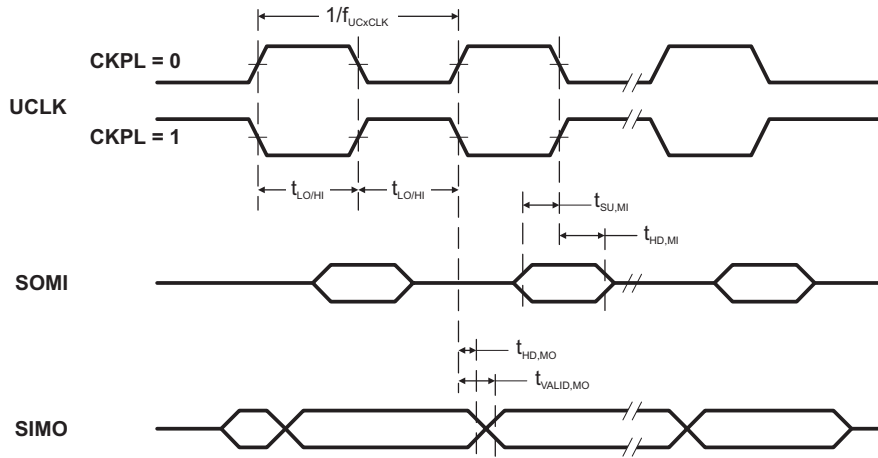
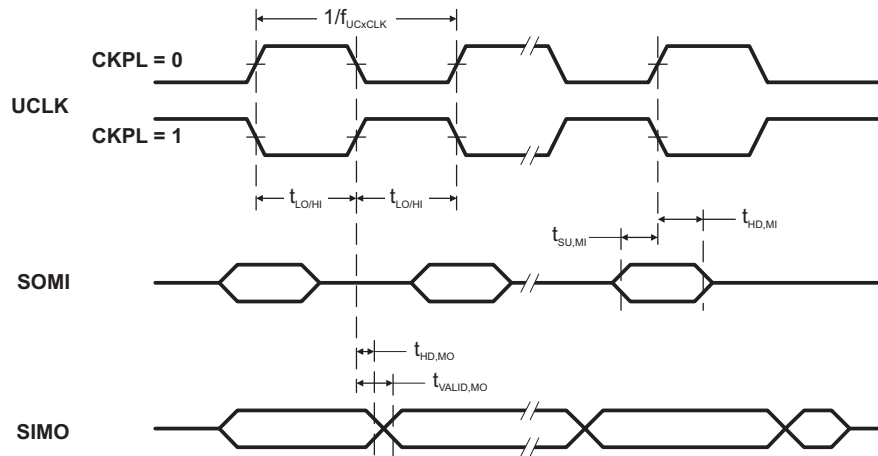

Figure 15. SPI Master Mode, CKPH = 0
Figure 16. SPI Master Mode, CKPH = 1
(see Note ⁽¹⁾, Figure 15 and Figure 16)
- (2) Specifies the time to drive the next valid data to the SIMO output after the output changing UCLK clock edge. See the timing diagrams in Figure 15 and Figure 16.
- (3) Specifies how long data on the SIMO output is valid after the output changing UCLK clock edge. Negative values indicate that the data on the SIMO output can become invalid before the output changing clock edge observed on UCLK. See the timing diagrams in Figure 15 and Figure 16.
- (2) Specifies the time to drive the next valid data to the SOMI output after the output changing UCLK clock edge. See the timing diagrams in Figure 15 and Figure 16.
- (3) Specifies how long data on the SOMI output is valid after the output changing UCLK clock edge. See the timing diagrams in Figure 15 and Figure 16.